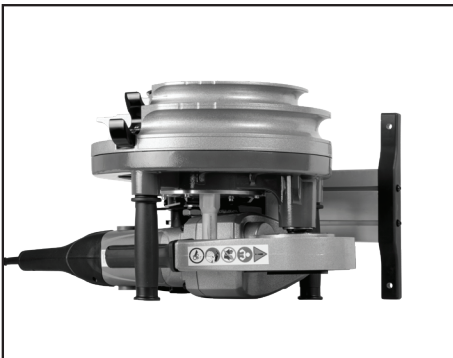

Figure 14. Threader and Legs Should Lie Against Bending Surface
6. The Portable Cyclone® can be used in both the horizontal and vertical position. If it is being used in the horizontal position, place it on its side laying on the 3 legs on the back of the bender. The base should be moved out of the way of the conduit to avoid damaging it during bending. Unlock the Angle Adjustment Lever and rotate the base away from the bender. The position of Die Adapter is not critical when bending vertically but everything should be in the same plane when bending horizontally. The correct position will vary based on threader being used. The 11-R Die Adapter can be adjusted inward or outward as necessary to ensure that the threader is the correct distance away from the bender to mount correctly and still lay against the ground. To do so unscrew the screws holding the 11-R Die Adapter in place using a 3mm metric Allen wrench. There are tapped holes in the end of the threader post and pinion gear shaft that can be used if a more permanent mounting of the threader is desired. This can be done using horizontal mounting hardware to attach the threader to the bender. See section "**6.6 Horizontal Threader Mounting Hardware**". **See Figure 14**